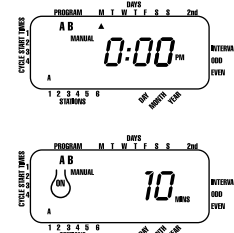

FIGURE 10: Semi-Automatic Watering Entered for A and B Programs, All Stations
**NOTE:** Water durations assigned to station 1 in program A will water first, then move to station 1 in program B before advancing to the second station and will continue alternating. Only those stations assigned a watering duration will water when using the manual or semi-automatic mode [See Figure 10].